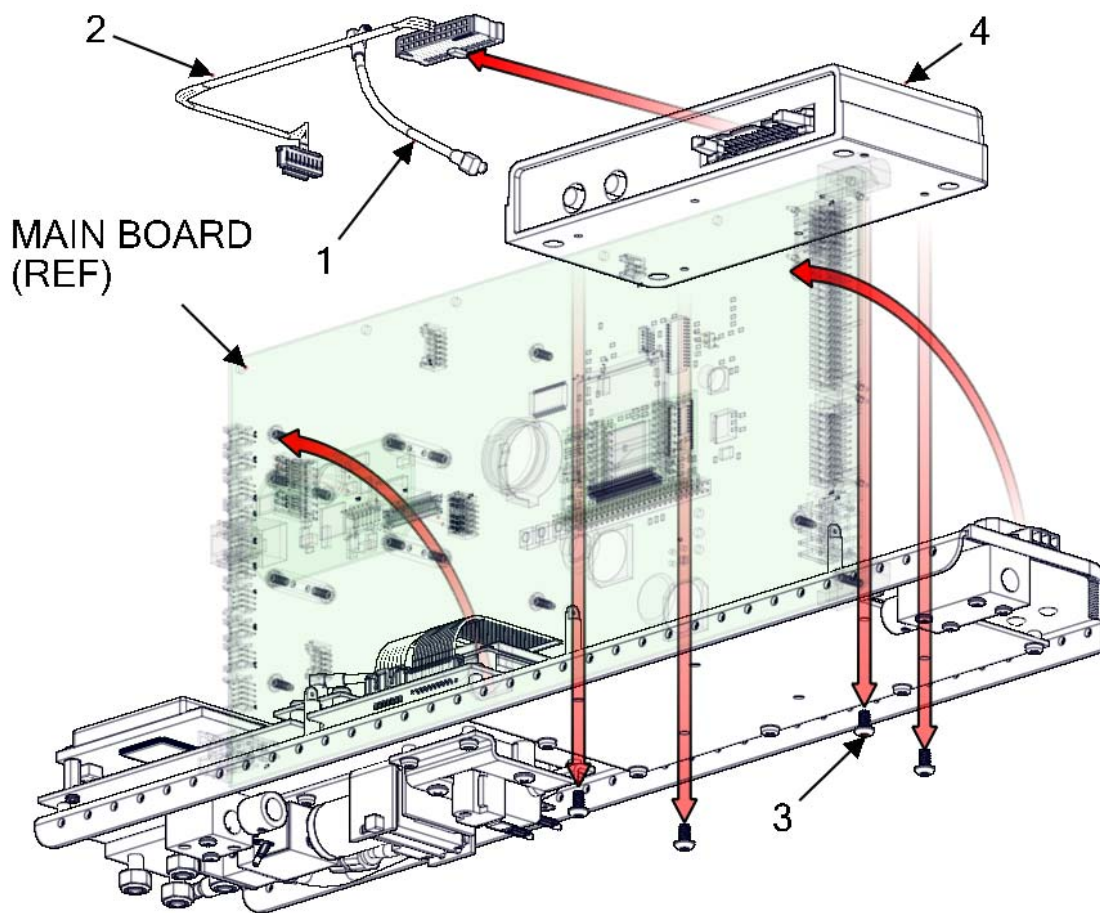

Figure 2-30 Iridium phone modified.
1. Unplug and remove the Iridium to LNA cable (Figure 2-30, Item 1).
2. Unplug and remove the Iridium cable (Figure 2-30, Item 2).
3. Remove the screws (Figure 2-30, Item 3).
4. Remove the Iridium phone (Figure 2-30, Item 4).
1. Position the Iridium phone (Figure 2-30, Item 4) on the glider aft electronics tray.
2. Install the screws (Figure 2-30, Item 3).
3. Install the Iridium cable (Figure 2-30, Item 2).
4. Install the Iridium to LNA cable (Figure 2-30, Item 1).